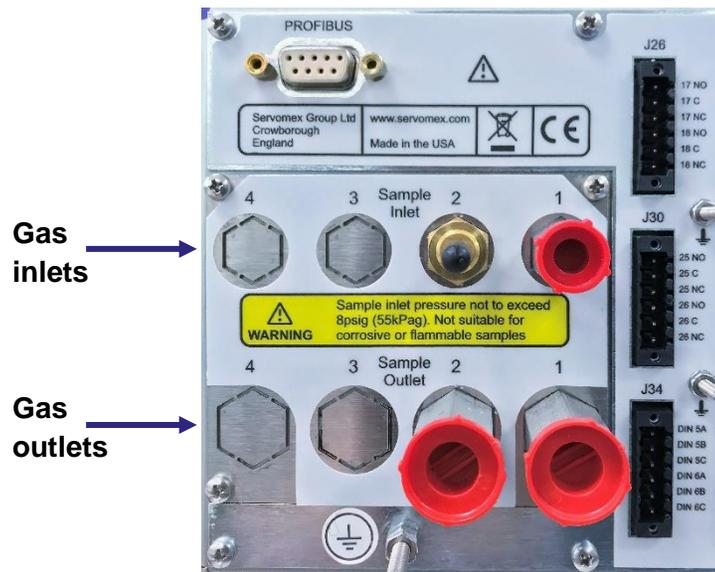

Figure 3-1: Gas inlets and outlets on rear of the analyzer
- Remove the protective plastic covers from the sample gas inlets and outlets on the rear of the analyzer (Figure 3-1).